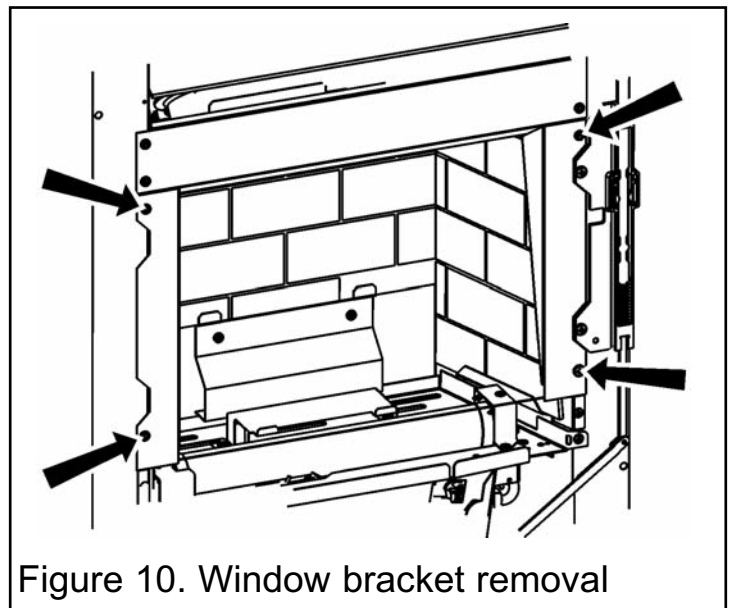

Figure 10. Window bracket removal
2. Unscrew and remove the left and right hand window brackets (See figure 10).